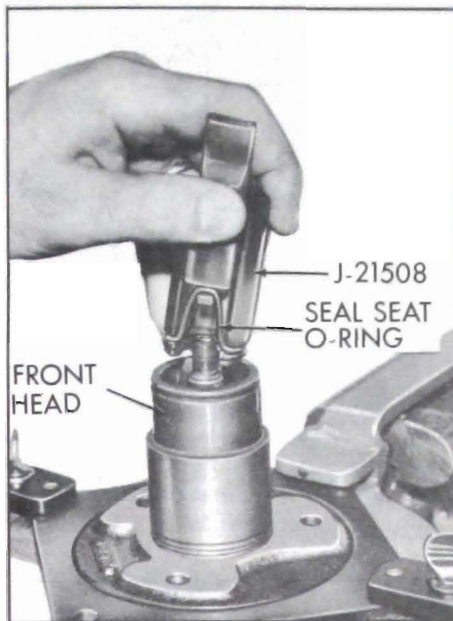

Figure 11-57—Installing Seal Seat O-Ring
9. Liberally coat seal seat “O” ring with 525 viscosity oil and insert “O” ring into hub of front head (see Figure 11-57) with seal seat “O” ring Installer (J-21508).